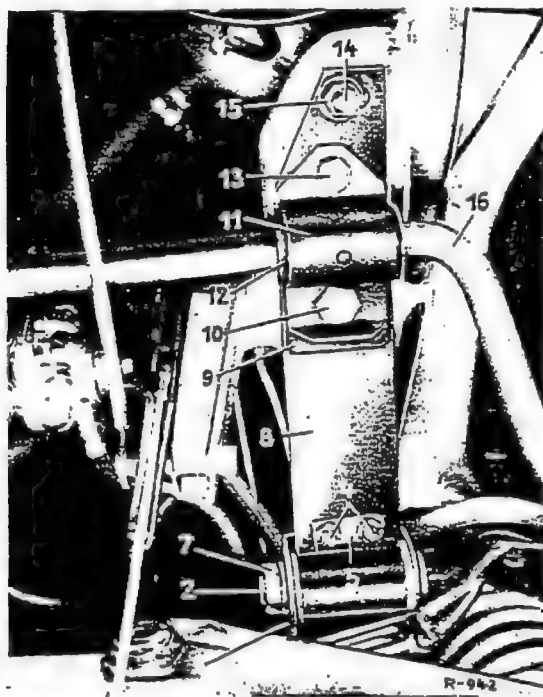

Fig. 33-3/1
1. Loosen the two hexagon screws (clamping screws) (4) on the flat spring (8) for the front axle longitudinal support (Fig. 33-3/1).